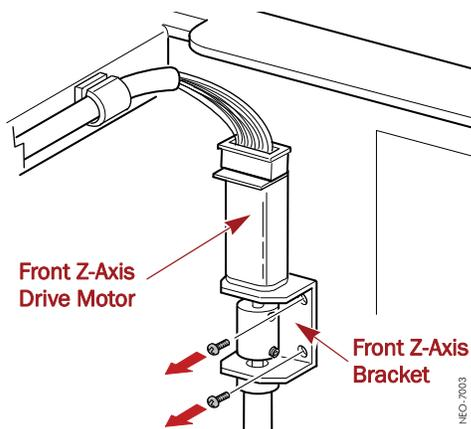

Figure 5. Remove Front Z-Axis Bracket Screws (Inside View)
- 1. Remove the two **bracket screws** located immediately below the drive motor (Figure 5).